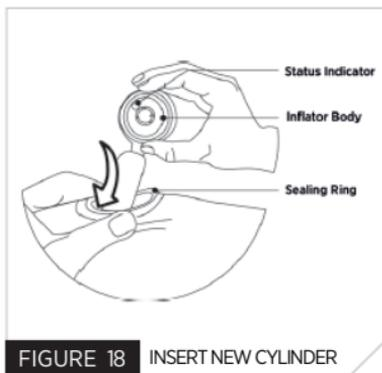

FIGURE 18 INSERT NEW CYLINDER
6. Check that the new inflator body indicator is green. Insert the new inflator body with the CO₂ cylinder pointing upward inside the PFD (Fig. 18). Let the sealing ring rest on the adapter around the four lugs.